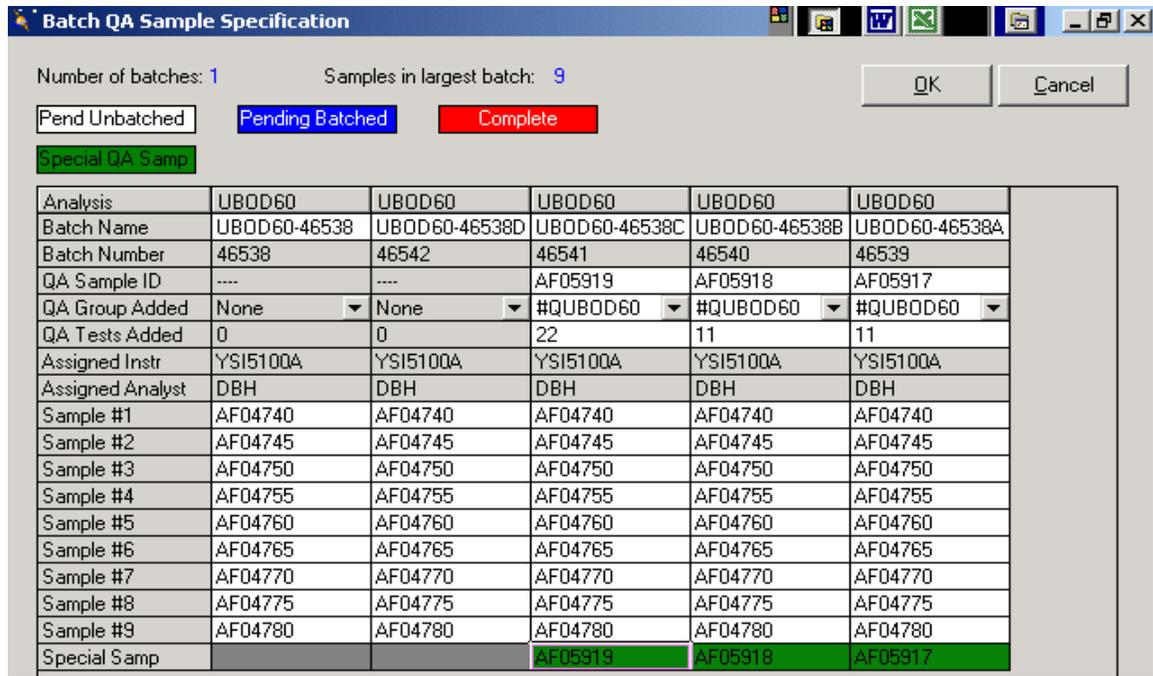

Figure 15
A.2.18 For the third clone, after logging in the QC sample, the test codes assigned will pertain to the LCS. See Figure 15.